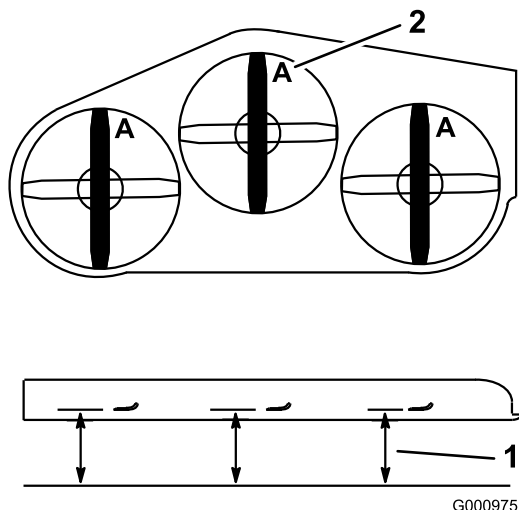
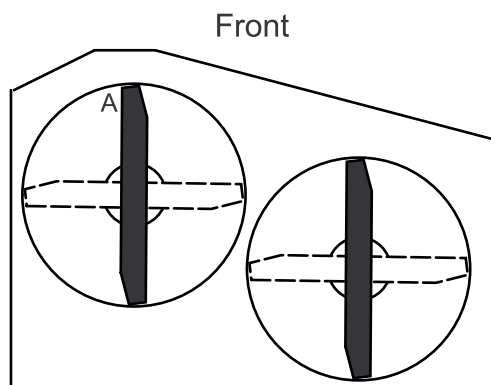

Figure 87
Figure 88
3. With the machine on level surface, position one blade front-to-rear. Measure at **A** and from level surface to the cutting edge of the blade tips (Figure 87). For 36 inch mower decks use Figure 88.